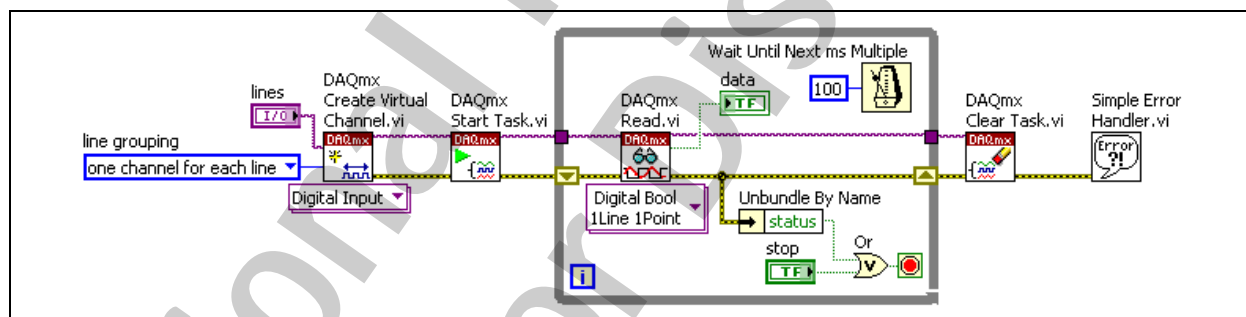

Figure 5-1. Digital Read VI Block Diagram
2. Modify the block diagram to acquire and display digital data, as shown in Figure 5-1, using the following items: